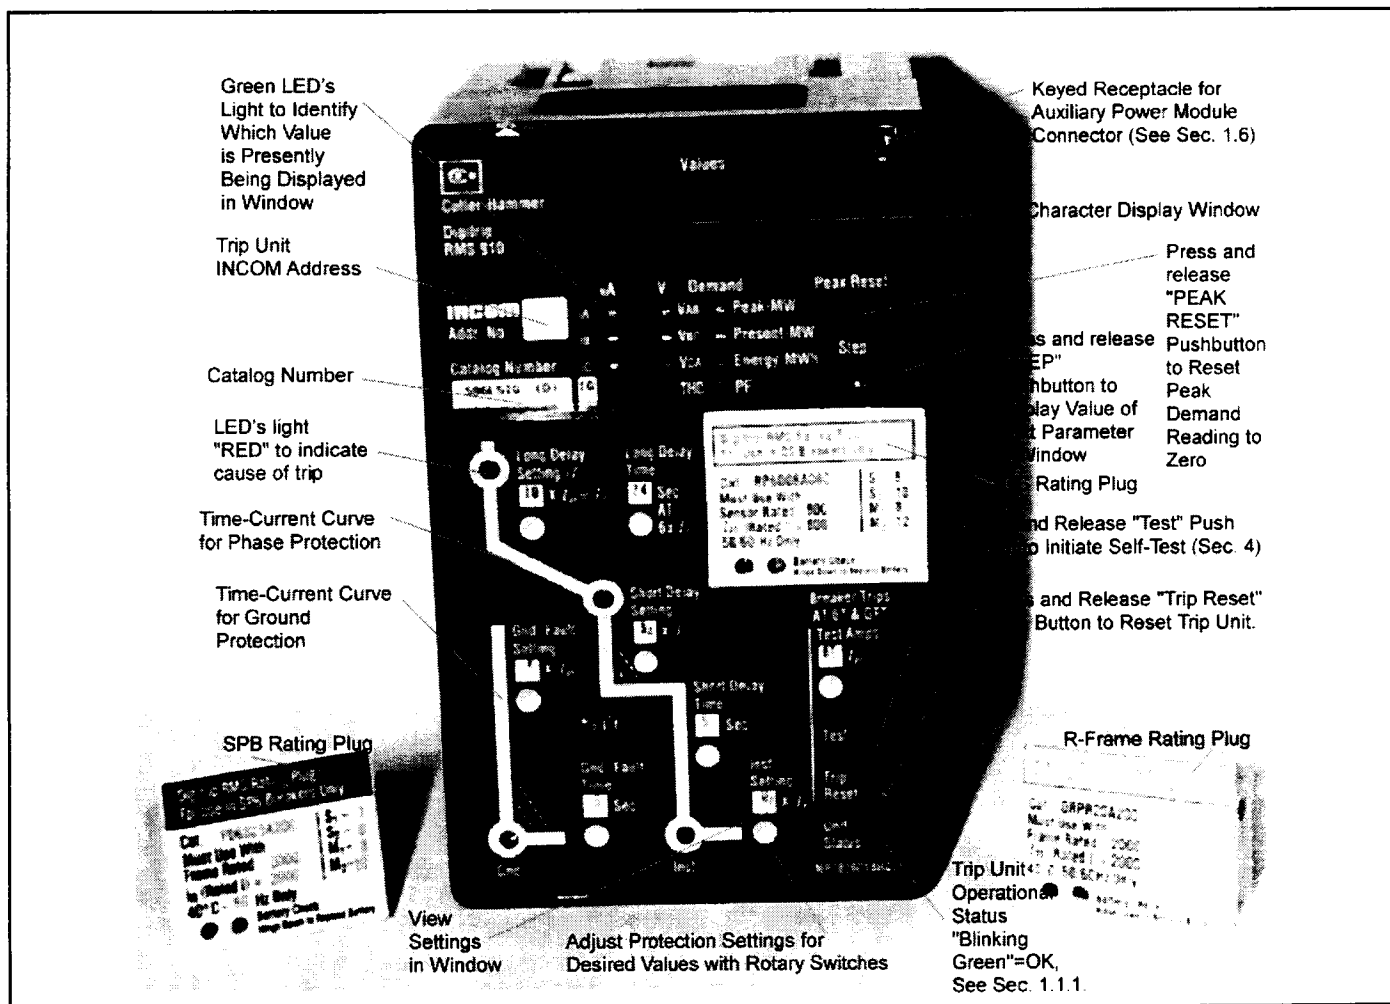

Fig. 1 Digitrip RMS 910 Trip Unit Type LSIG with Rating Plug
The Digitrip RMS 910, illustrated in Fig.1, is a Trip Unit, suitable for use in types DS and DSL Low-Voltage AC power circuit breakers and type SPB Systems Pow-R circuit breakers and Series C R-Frame molded case circuit breakers. The Digitrip RMS 910 Trip Unit provides five basic functions:
The "Green" Light Emitting Diode (LED) in the lower right corner of the Trip Unit (Fig. 1) "blinks" once each second to indicate the Trip Unit is operating normally.
The LEDs, shown in Figs. 1 and 3.1 thru 3.6 on the face of the Trip Unit, light "RED" to indicate the reason for any automatic trip operation. As indicated in Figs. 3.1-3.6, each LED is strategically located in the related segment of the time-current curve depicted on the face of the Trip Unit. The reason for trip is identified by the segment of the time-current curve where the LED is lighted "RED", is also identified on the Display. Following an automatic protection trip operation, the external control power to the Power/Relay Module (see Section 1.4) will maintain the LED "RED" and will **continue** to send a **TRIP** signal to **LOCKOUT** the circuit breaker until the Trip Unit is **RESET**. The Digitrip RMS 910 Trip Unit can be **RESET** in two ways:
- either press and release the "**TRIP RESET**" button (See Fig. 1 lower right corner just above the "UNIT STATUS" LED.),
In the event that control power is lost, the back-up battery in the Rating Plug (see Section 1.3 and Figs. 1 and 4) continues to supply power to the LEDs. To check the status of the battery, see Section 4.5.
Press and release the “TRIP RESET” push-button shown in Fig. 1, to turn “Off” the LEDs following a trip operation.
TROL POWER REMAINS AVAILABLE TO THE POWER / RELAY MODULE. THE TRIP UNIT MUST BE RESET, BEFORE THE CIRCUIT BREAKER CAN BE CLOSED AGAIN. THE RESET CAN BE ACCOMPLISHED EITHER LOCALLY BY PRESSING AND RELEASING THE “TRIP RESET” PUSH BUTTON (SEE FIG. 1), OR REMOTELY BY THE IMPACC SYSTEM. (SEE SECTION 5.9.)